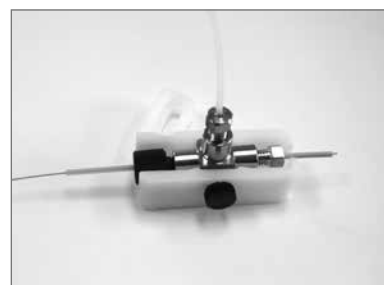

Figure 15: Fully assembled sheath gas tee secured into the sheath gas tee module
1. Insert the sheath gas tee into the sheath gas tee module and secure the tee in place with the set screw (Figure 15)